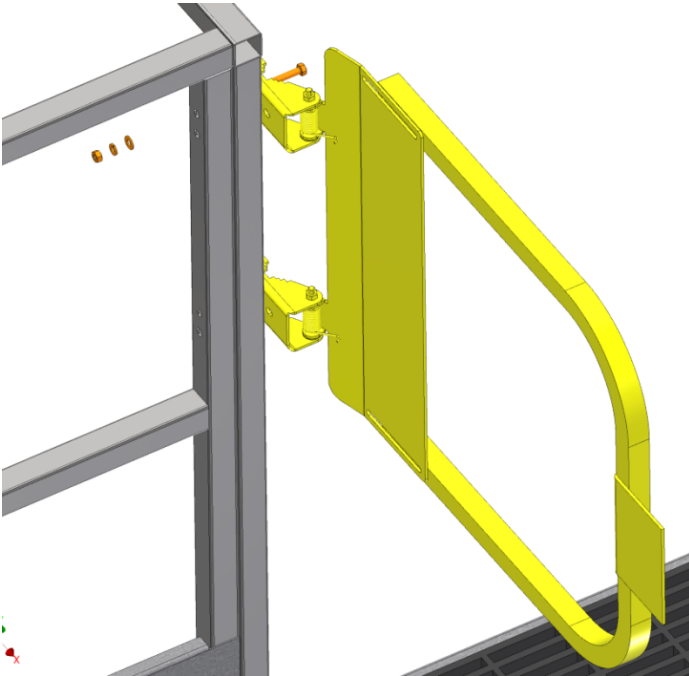

Figure 313. Access Door Platform Safety Gate
This section sets forth the steps for installing the access door platform safety gate. The access door platform safety gate is shown in **Figure 313**.
2. Secure safety gate in two locations using four (4) 5/16" x 4" bolts. See **Figure 313** for bolting details.